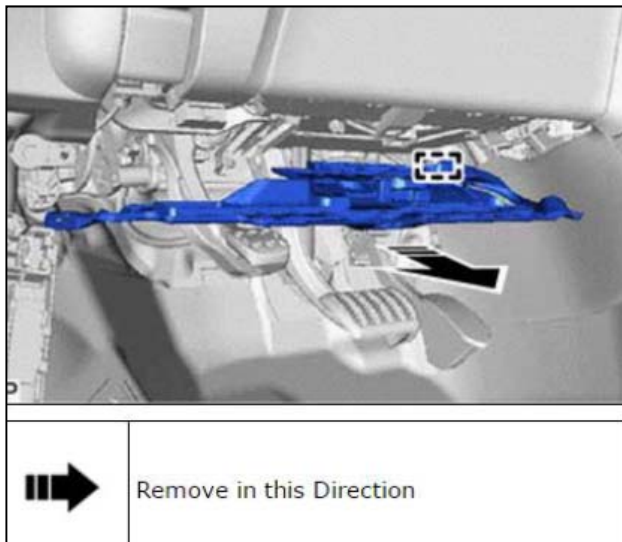

Figure 18
- c. Disengage the guide shown in the illustration. See Figure 18.